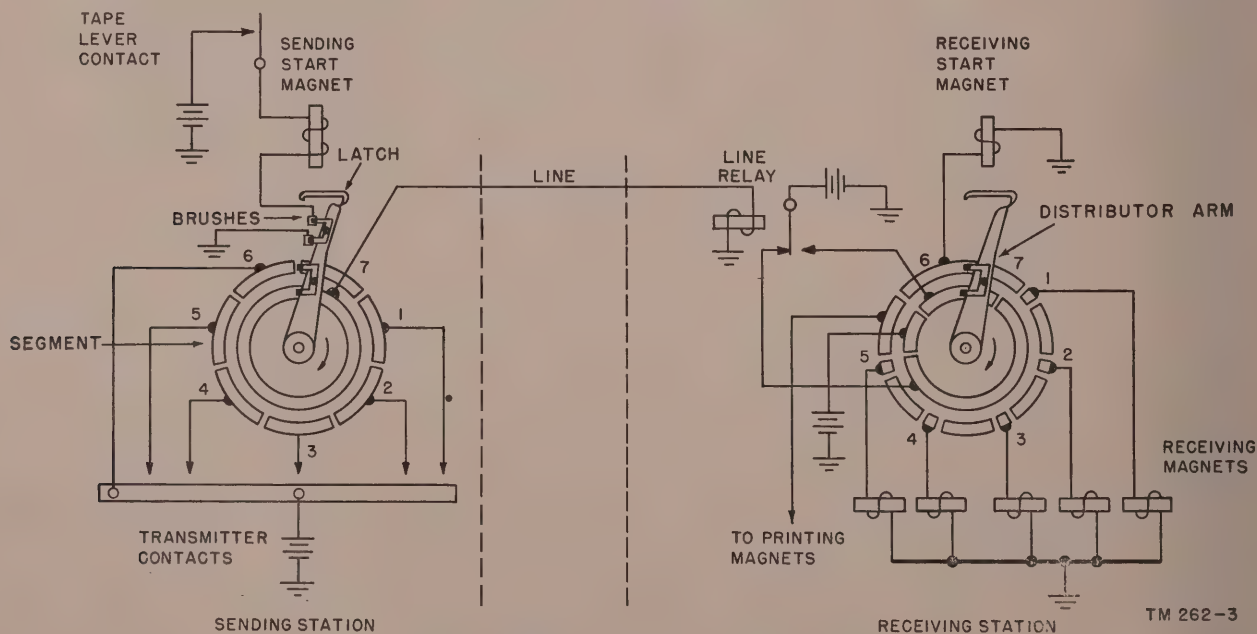

Figure 8. Start-stop synchronizing system.
b. The start-stop system of synchronizing is the one used with equipments employing this control unit. It requires for its operation that two synchronizing pulses per character be transmitted over the line in addition to the five selecting pulses. The operation of this system may be understood by reference to figure 8. This figure shows a simplified diagram of one form of start-stop system which lends itself readily to explanation. Referring to the figure, the distributor arms are connected to the shaft by means of a friction clutch and normally are held from rotating by latches. The distributor shafts at the sending and receiving ends are adjusted to rotate at approximately the same speed. When a character key is depressed, the first pulse, known as the start pulse, releases the latch at the sending end, and as the distributor arm passes over segment seven (unconnected to the line as it always transmits a *space* signal), it transmits a space to the line.